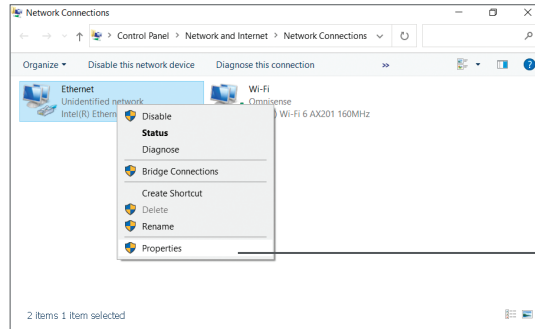

Fig. 7
2. Right-click on your Ethernet Network that is connected to the Junction Box and click on Properties (Fig. 7).